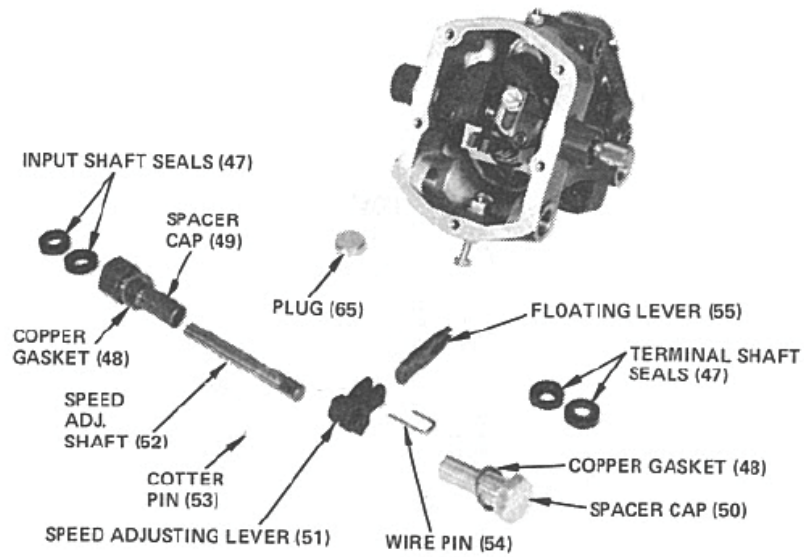
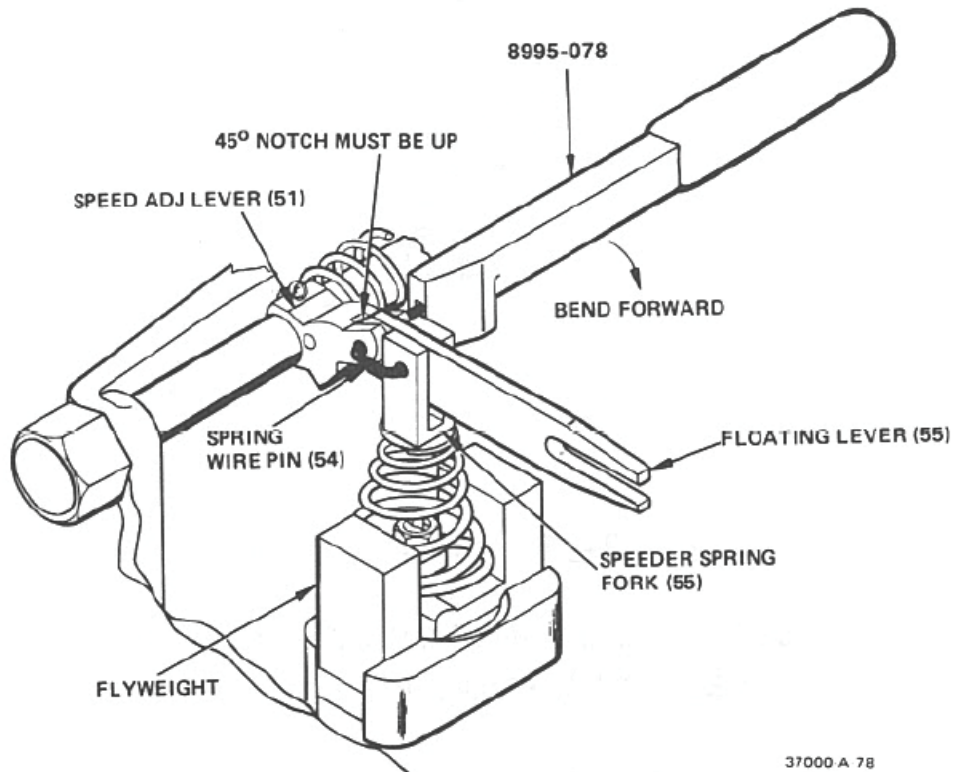

Figure 3-28. Speed Adjusting Parts Layout
Figure 3-29. Speed Adjusting & Floating Lever Assembly
23. Assemble high speed stop screw (10), nut (9), and washer (8) into case (1).
24. Figure 3-28 shows the speed adjusting parts layout.
- Assemble lever (51) on shaft (52) and secure with pin (53). Position pin (53) and lever (51) as shown in Figure 3-28.
- Insert shaft (52) through hole in case from the inside of case.
- Place copper washers (48) on spacer caps (49 and 50) and insert them into case and tighten with a torque wrench to 30 lb-ft.
- Position floating lever (55) with its slot straddling the droop bracket pin. Be sure 450 notch is on top.
- Align holes in floating lever (55), adjusting lever (51) and speeder spring fork (42) and secure together with wire pin (54).
- Bend wire pin (54) with tool 8995-078 as shown in Figures 3-29 and 3-30.